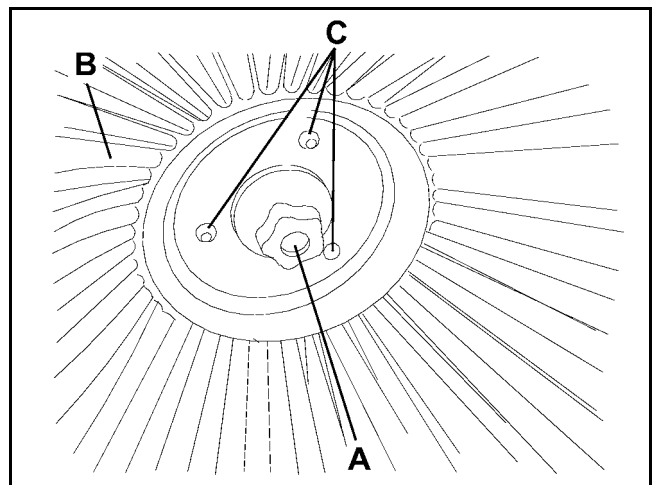

Figure 8
4. Loosen the knob (A, Fig. 8) inside the side broom, then remove the broom (B) by disengaging it from the pins (C).
5. Install the new broom on the machine engaging it on the pins (C), then tighten the knob (A).